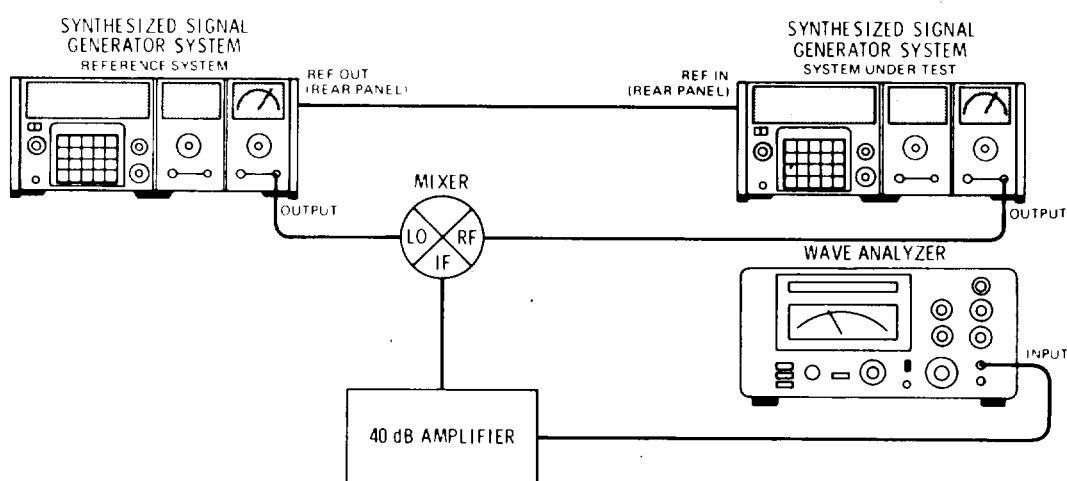

Figure 4-15. Narrowband Spurious Signal Test Setup.
1. Connect the equipment as illustrated in Figure 4-15.